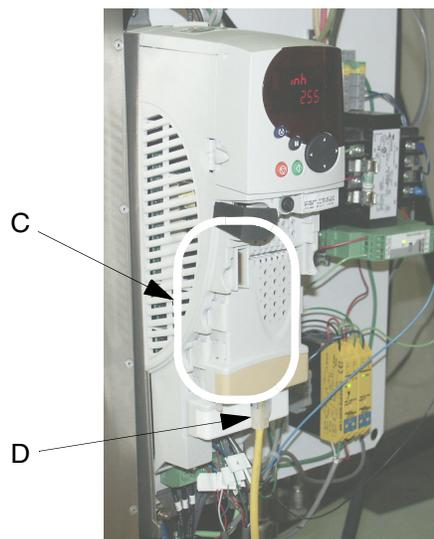

FIG. 17
Use a CAT 5 Ethernet Cable (D) to connect the VFD Ethernet Module (C) to the PC. See FIG. 17.